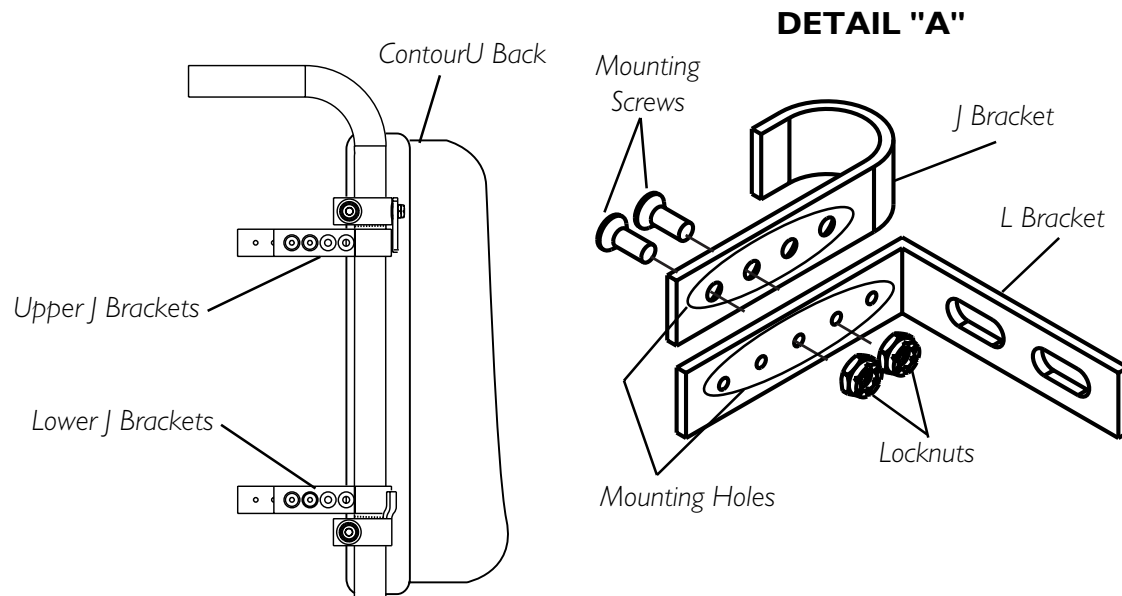

FIGURE 6 - ADJUSTING THE CONTOUR U SEATING SYSTEM BACK ANGLE
ADJUSTING THE CONTOUR U SEATING SYSTEM BACK ANGLE (FIGURE 6)
4. Remove the two (2) mounting screws and locknuts that secure the J bracket to the L bracket as shown in DETAIL "A" of FIGURE 6.
5. Align two (2) mounting holes of the J bracket with two (2) mounting holes of the L bracket to acquire the desired angle.
6. Reinstall the two (2) mounting screws and locknuts that secure the J bracket to the L bracket. Securely tighten.